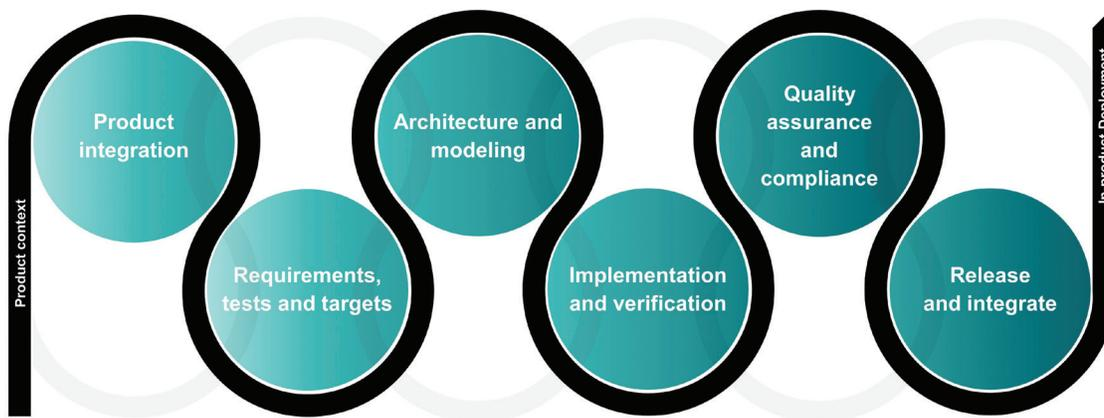

Figure 2: Automotive embedded software engineers need a unified platform to track and manage application development.
more heavily on complex software applications. Embedded software teams need a means of managing the software development lifecycle, from planning through development and delivery, which can interact with product lifecycle management (PLM) and other needed engineering solutions to provide a unified development platform (figure 2). During application development and quality assurance (QA), teams should have clear visibility to design requirements, key system attributes and constraints, and even down to individual lines of code. Such a platform will provide full traceability to ensure regulatory compliance, and promote functional reuse and collaboration across the involved engineering domains.